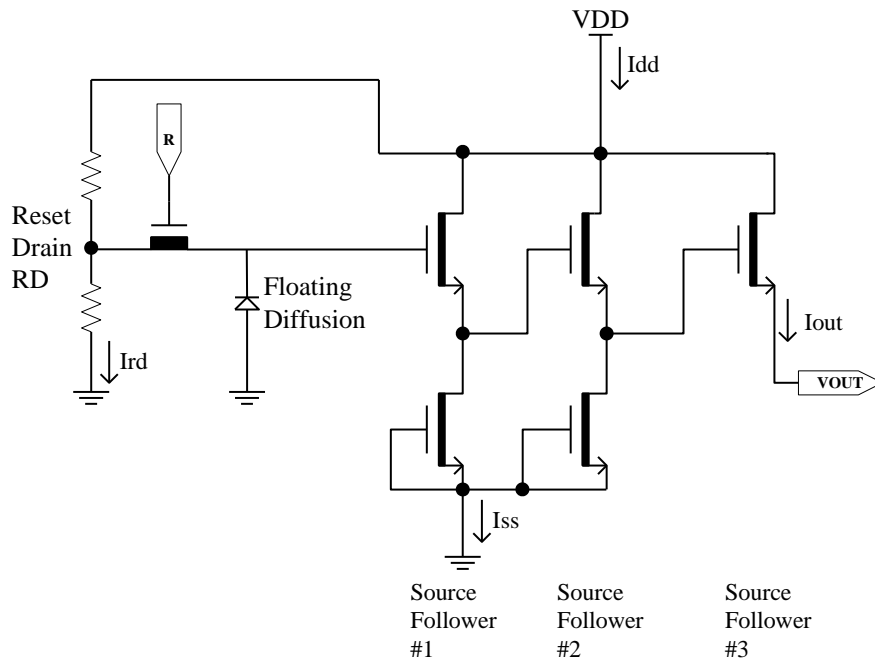

Figure 12: Output Amplifier
- Each output. See Figure 12. Note that the current bias affects the amplifier bandwidth.
1. The maximum DC current is for one output unloaded and is shown as  $I_{rd} + I_{ss}$  in Figure 12. This is the maximum current that the first two stages of one output amplifier plus the reset drain bias circuit will draw. This value is with  $V_{out}$  disconnected.